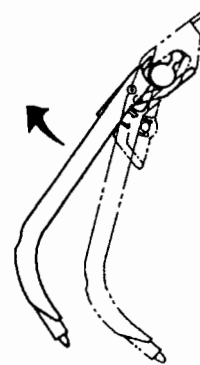

Fig 6.17
- (5) Pens can be removed from the pen holder by lifting the center portion of the cartridge upward (Fig. 6.17).